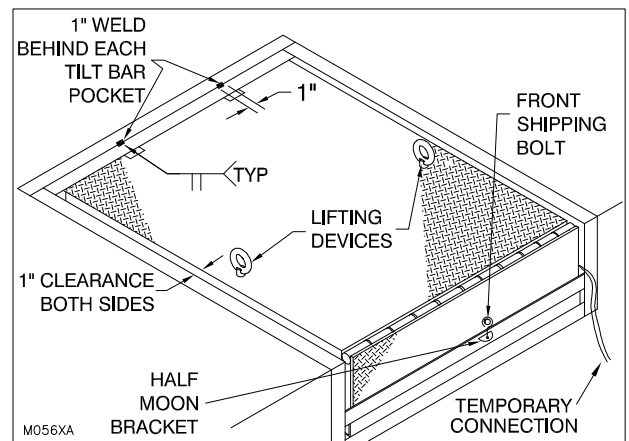

Figure 21: Installing Leveler into Pit
4. ___ Hoist leveler into pit with chain using only appropriate lifting devices (“Figure 6: Hoist Leveler with Chain” on page 9) and position the leveler into the pit opening. Note: Assure temporary wire is accessible through front of dock leveler. (“Figure 21: Installing Leveler into Pit” on page 16).
7. Weld the rear angle of the dock leveler to the rear curb angle, 1" wide butt weld, at the location of each tilt bar pocket (2 places). "Figure 21: Installing Leveler into Pit" on page 16.
9. ___ Weld the rear angle of the dock leveler to the rear curb angle, 1" wide butt weld, at the location of each tilt bar pocket (2 places). See "Figure 21: Installing Leveler into Pit" on page 16.